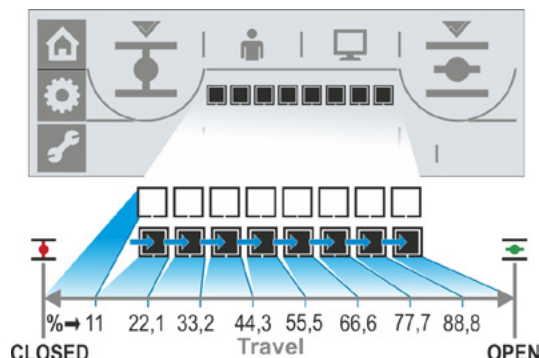

Fig. 2: Position indicator
- 10 Position indicator; the black rectangles (segments) indicate how far the actuator has moved in position OPEN. Each segment corresponds to approx. 11 % of the entire travel. Refer to figure 2 on the right